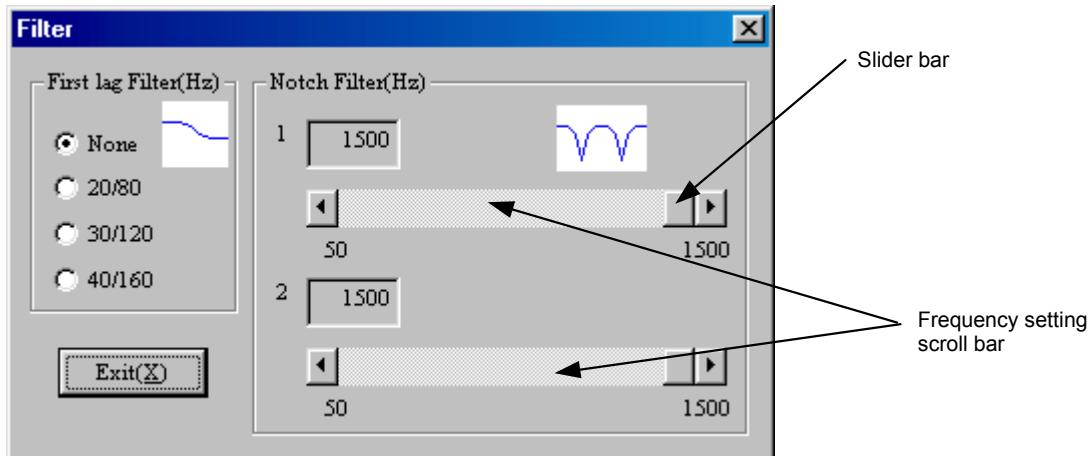

Figure 8.17 “Filter” dialog box
(3) Filter setting
Click “**Filter (F)**” under “Servo Tuning” to display the “Filter” dialog box (see Figure 8.17).